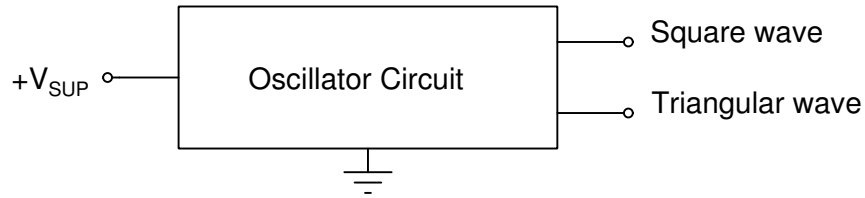
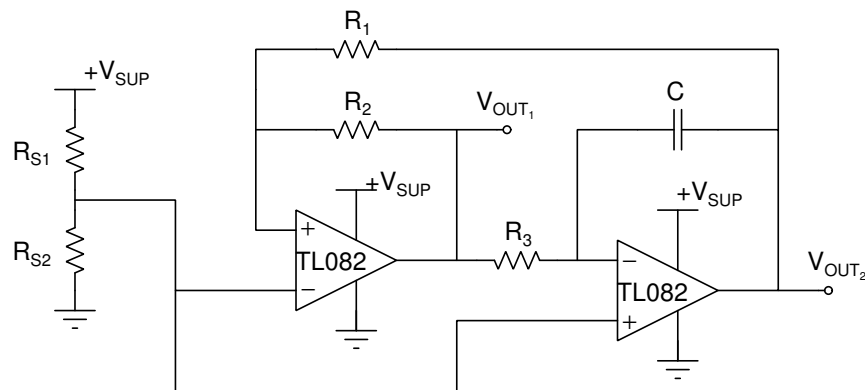

Figure 1: Block diagram of the oscillator circuit.
Figure 2: Oscillator circuit using a Schmitt trigger and an inverting integrator.
Introduction: Two TL082 Operational Amplifiers (OpAmps) are used to produce an oscillator. The oscillator is formed by connecting the output of a Schmitt trigger to the input of an inverting integrator, and connecting the output of the inverting integrator back to the input of the Schmitt trigger. A block diagram is shown in Figure 1 and the oscillator circuit is shown in Figure 2.
1. Explain how the circuit in Figure 2 functions and sketch the shape of the expected output signals V_{OUT1} and V_{OUT2} as a function of time.
4. Use NGspice to simulate the circuit of Figure 2 with the TL082 OpAmp. What is the simulated value of the oscillation frequency? What is the duty cycle?